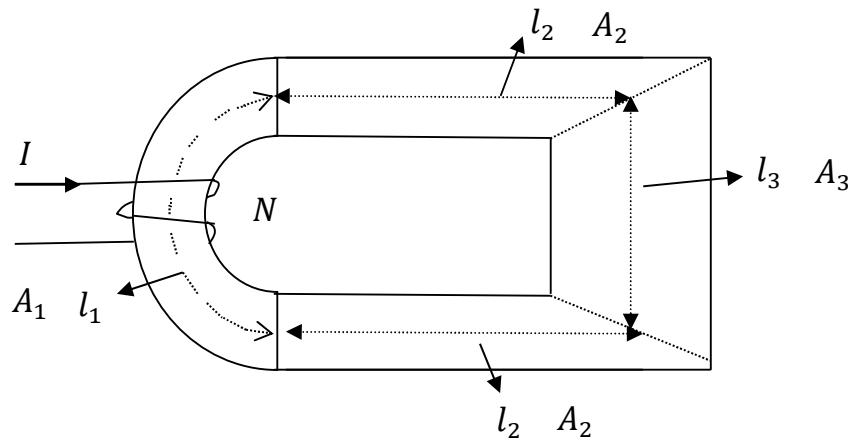

Figure 1
3. Figure 1 shows an electromagnetic system which is made up of three sections.